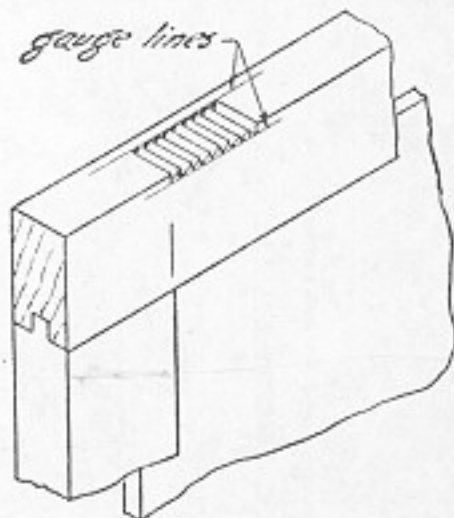

Fig. 299. Chiseling gain on door.
9. The outline of the gains is chiseled very carefully, making first a light perpendicular cut around the outline and then a V cut on the inside of the lines marked (Fig. 299).